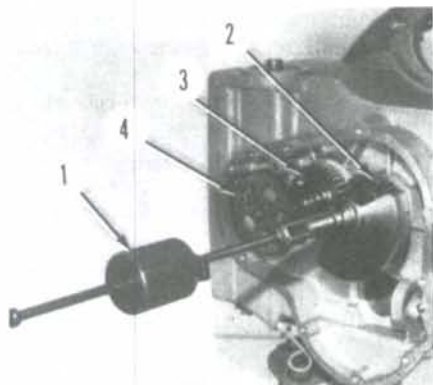

Fig. D1-10—Use a slide hammer puller to remove balance weight assembly.
Inspect gears for excessive wear and other damage. To remove balance weight and bearing, use a suitable slide hammer puller to remove balancer assembly (2—Fig. D1-10) from crankcase. Remove crankshaft gear retaining ring, then use a suitable puller to pull gear (3) off crankshaft. Refer to